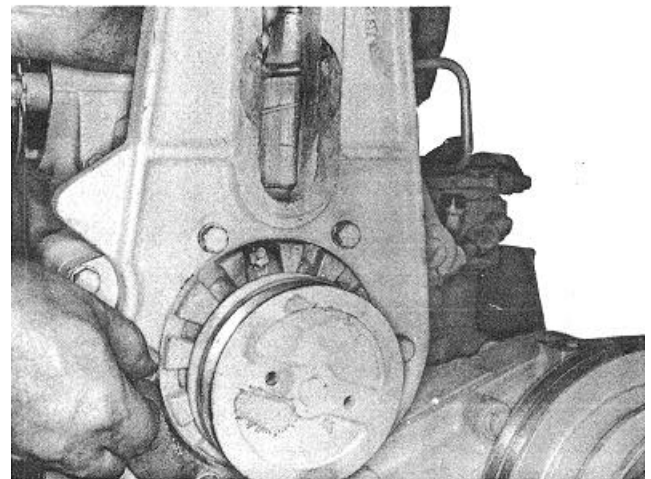

Fig. 14-49 (N114144). Install The Fan Bracket.
2. Install the water pump into the support. Install the fan bracket (Fig. 14-49) or clamp ring if the engine does not have a fan bracket. Install the lockwashers and capscrews. Tighten the capscrews to 3 to 5 ft.-lbs. [4 to 6.8 N•m] torque. Turn the body of the pump clockwise so that the water pump pulley moves toward the accessory drive pulley.